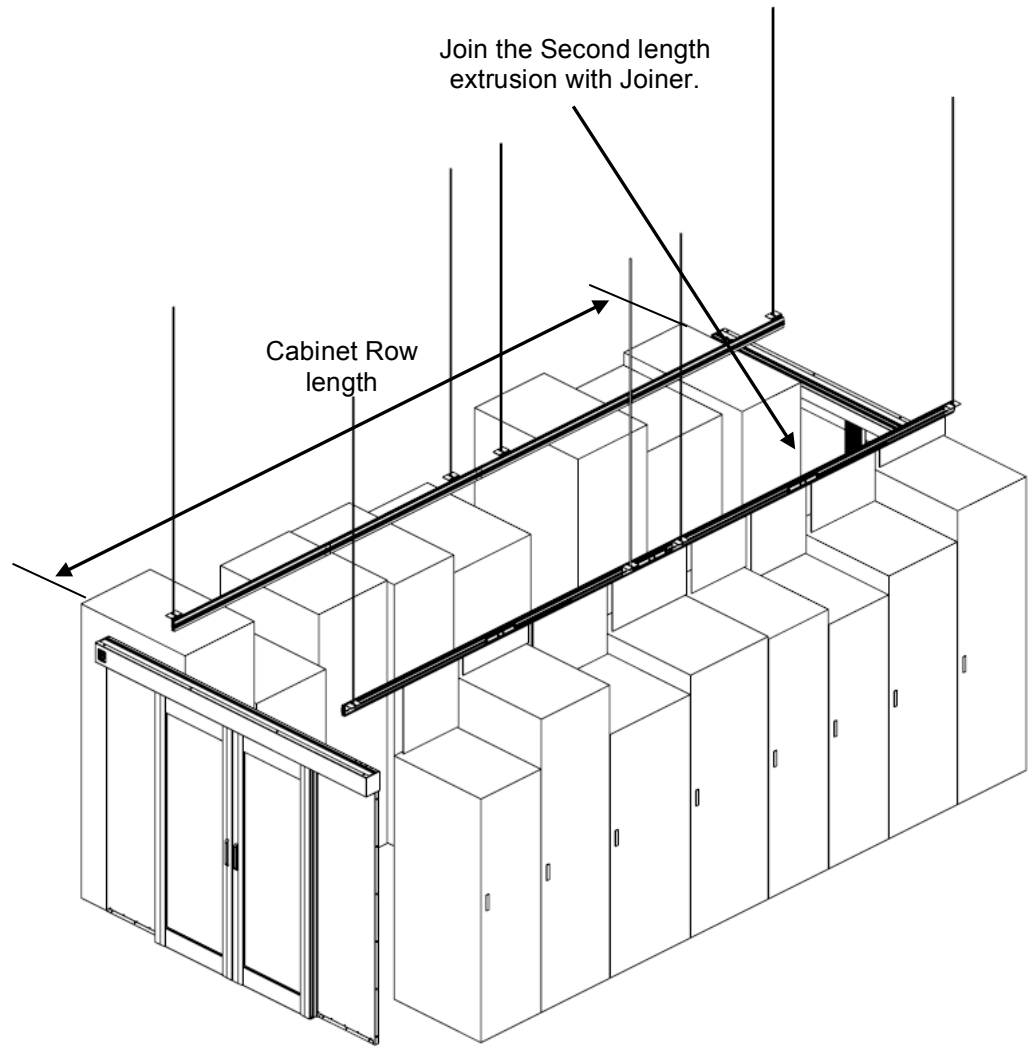

Fig. 9
10. Repeat steps 5-9 for opposite side of containment row length (Fig.9).